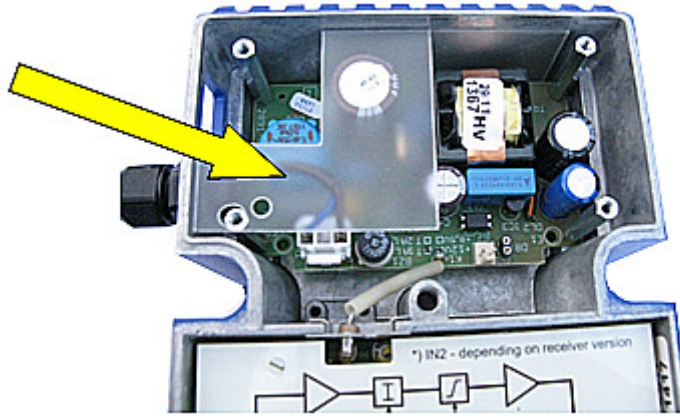

Fig. 8.13. Replacing a fuse in the MOB-729 - step 4.
- Fig. 8.13. Replacing a fuse in the MOB-729 - step 4.